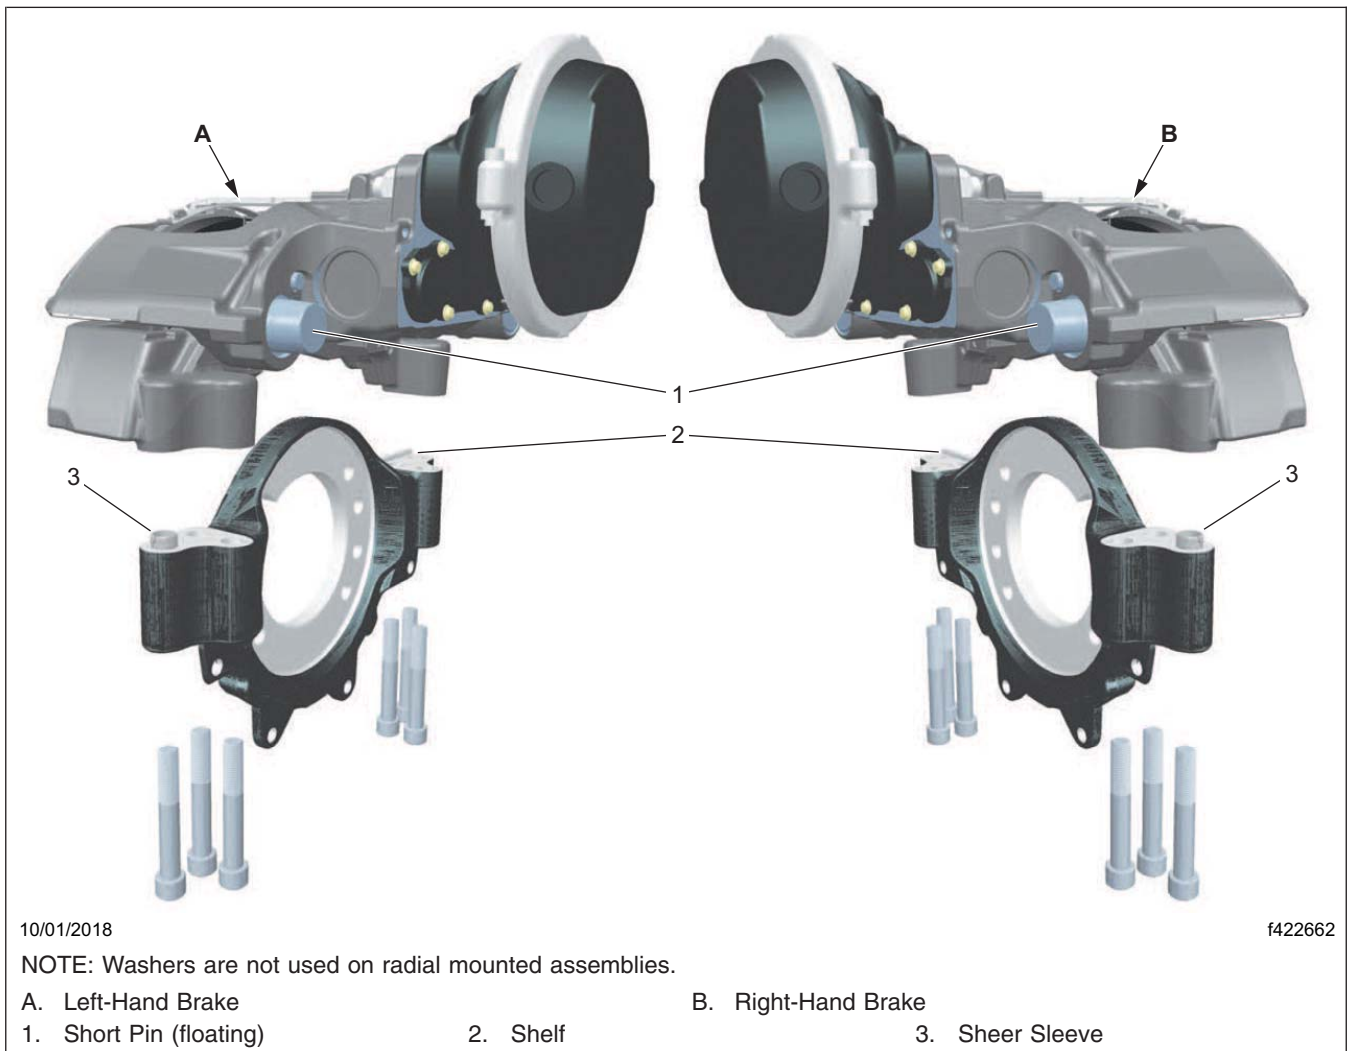

Fig. 3, Bendix Radial Mounted Caliper
- Align each caliper/carrier assembly with the rotor by pushing the fixed pin side of the caliper against the shelf on the torque plate, then install the caliper/carrier assembly using new caliper mounting bolts. See Fig. 3.